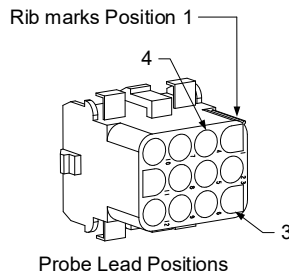

Figure 42
10. Insert the temperature probe leads into the 12-pin wiring harness connector (see Figure 42). The red lead goes into position 3 and the white into position 4.